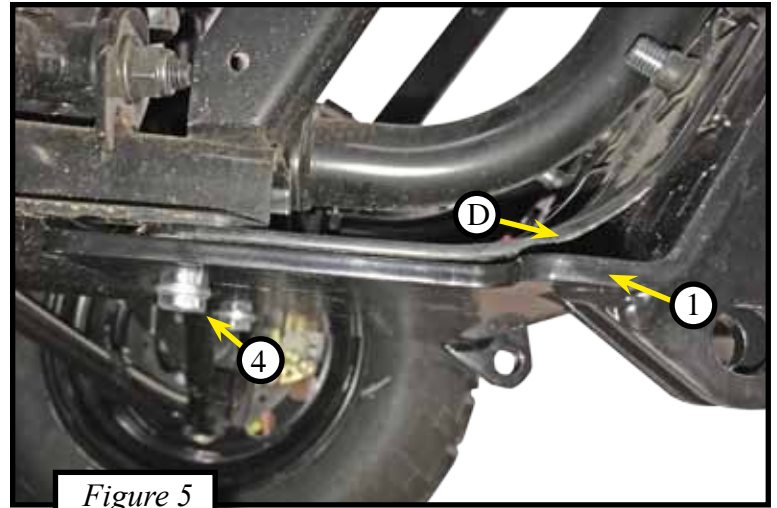

Figure 5
6. Bolt the rear of the plow mount (1) up to the frame into the OEM holes using the two bolts (4). Shown in Figures 5 & 6.